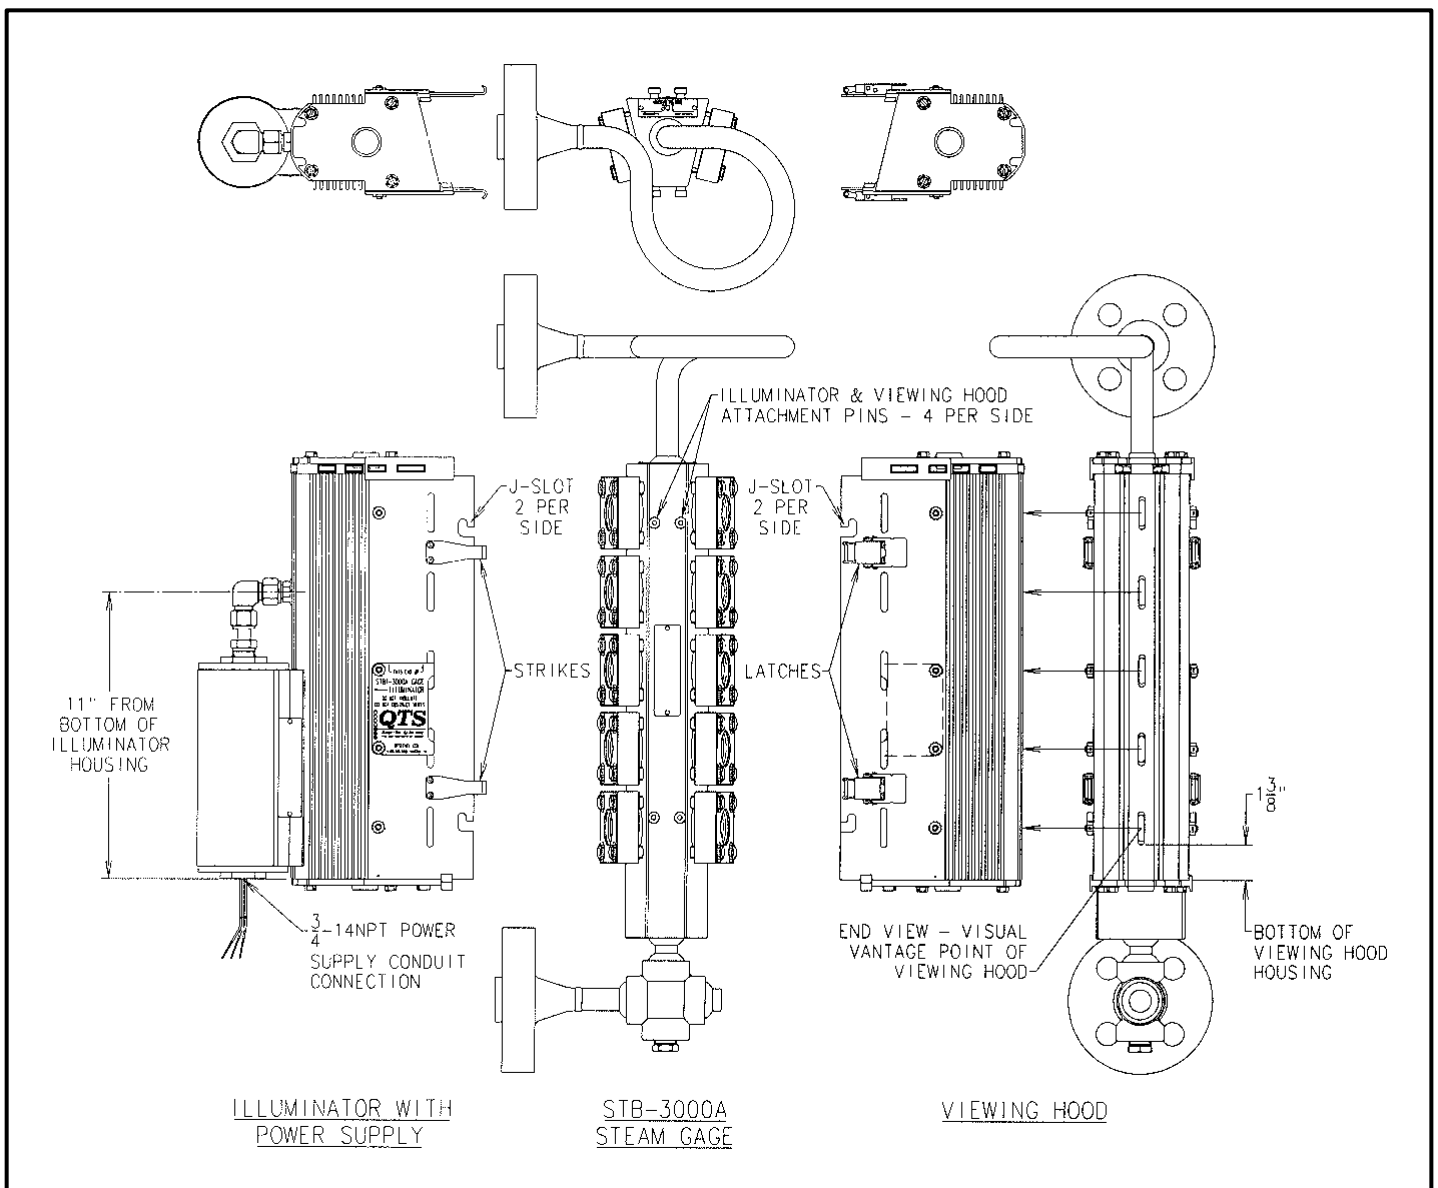
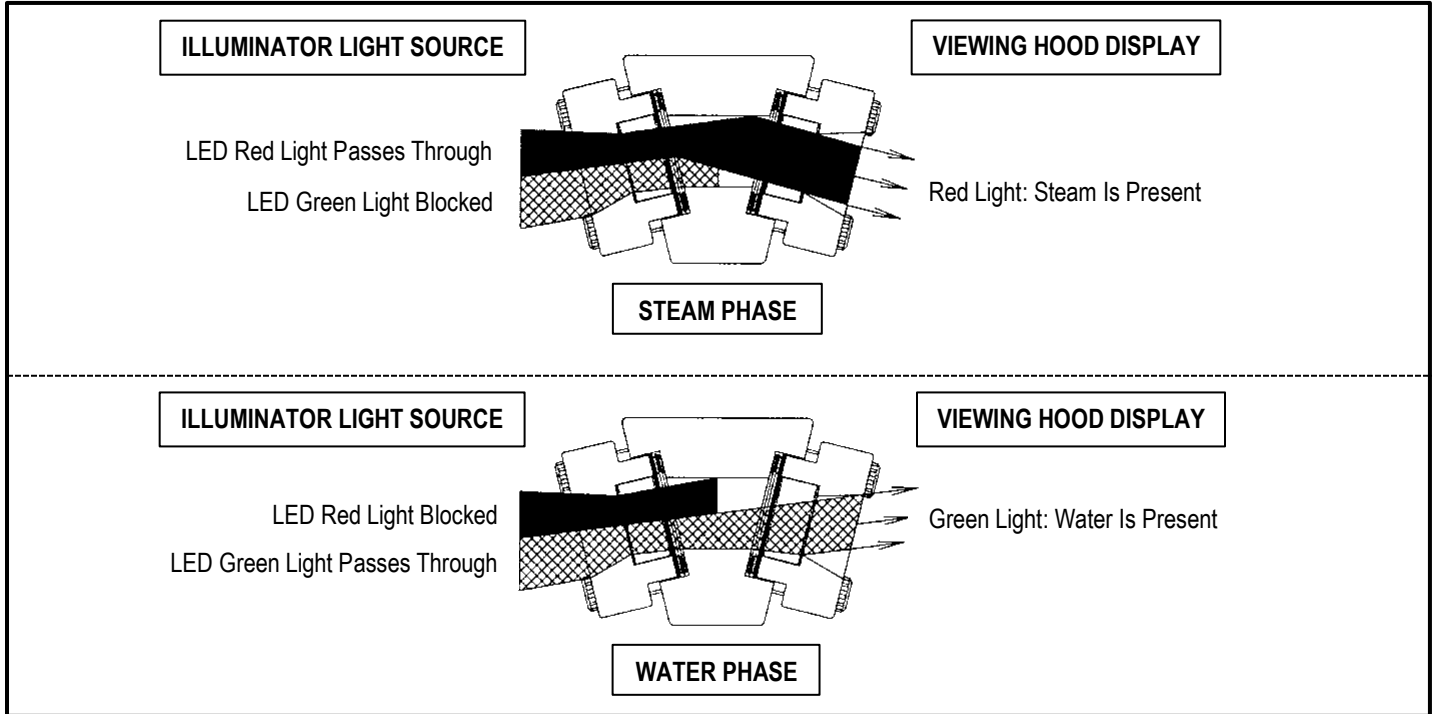
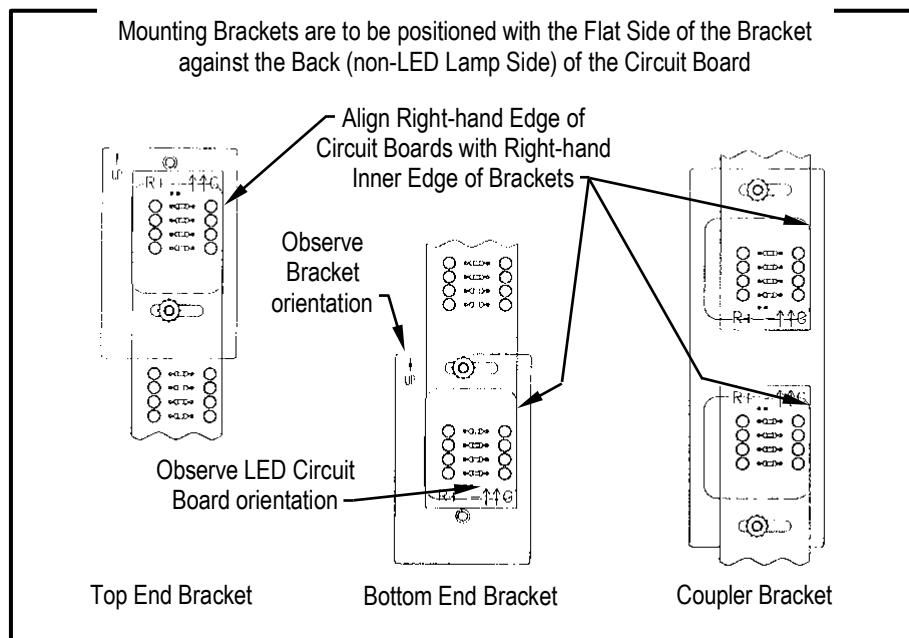

Figure 1. STBI-3000A Illuminator & Viewing Hood Attachment and Fastening Points to STB-3000A Steam Gage
Figure 2. Diagram of Illuminator Light Refraction through Gage Chamber and Indicated Level Position of Fluid Phase
Figure 4. Orientation of LED Circuit Boards and Mounting Brackets Prior to Assembly
Figure 1 below depicts a typical STB-3000A Steam Gage arrangement (a 5-port gage is shown) with the STBI-3000A Illuminator & Viewing Hood Assembly unattached to the Steam Gage. The Assembly attachment and fastening points are shown in Figure 1 below.
The STB-3000A Steam Gage Chamber has a central passageway through which steam and water can rise and fall. On opposing sides of the Chamber are flange-retained Glass Ports that are set at precise angles to cause refraction of the light emitted from the Red and Green LEDs inside of the Illuminator. The emitted light passes through the Illuminator-side Ports of the Gage, through the fluid in the Gage Chamber and exits through the Viewing Hood-side Ports of the Gage. The emitted light is visible through the Slots in the Viewing Hood from vantage point shown in Figure 1. The STBI-3000A Illuminator & Viewing Hood Assembly is designed such that through refraction, fluid in the steam phase will allow passage of only the light in the Red spectrum and, when in the water phase, will allow passage of only the light in the Green spectrum. Figure 2 shows this principle of refracted light through the Gage Chamber and the indication of fluid phase level.
**IMPORTANT: The configuration (type, size, length and position) of the STB-3000A Steam Gage vessel and drain connections were manufactured according to the Purchaser’s specifications. When installed, the Gage configuration establishes the mounting locations of the Illuminator and the Viewing Hood relative to other equipment and structures that may be present in the installation area. The Illuminator and Viewing Hood have ONE CORRECT ATTACHMENT POSITION ON THE STEAM GAGE; they are NOT reversible nor invertible. Figure 1 depicts the attachment locations relative to the Gage Chamber cross-sectional shape and Port locations.**
1. Attach Illuminator – Align the Horizontal Leg of the J-Slots in the Illuminator Side Panels (Items 7) with the Shoulder Screw Attachment Pins (Items 31) of the Gage Chamber; there are four (4) attachment points on each side of the Gage Chamber. Engage the J-Slots with the Pins, slide the Illuminator inward toward the Gage and allow the Illuminator to drop down slightly to engage the vertical “Hook” portion of the J-Slots. The Illuminator-to-Gage Attachment Points are shown in Figure 1.
2. Attach Viewing Hood – Swing the Levers of the Latches (Items 23) outward on both Viewing Hood Side Panels (Items 7) to unlock and allow free movement of the Latch Bales. Swing the Bales outward to prevent interference with the Illuminator Strikes (Item 24) when attaching the Viewing Hood. Attach the Viewing Hood the Gage Chamber as described for the Illuminator (above); refer to Figure 1.
1. Attach Side Panels to Illuminator Housing - Align Hex Flats of the Cap Screws (Items 26) with the Internal Channel Slot in the End of the Illuminator Housing (Item 1) and slide-in the quantity of screws corresponding to the quantity of Bolt Holes in the Side Panel (Item 7). Orient the first Side Panel being attached as shown in Figure 1, place it against the Side of the Illuminator Housing next to where the Cap Screws are projecting from the Housing and align the Bottom Edge of the Side Panel with the Bottom Edge of the Illuminator Housing. Reposition the Cap Screws to line-up with the Panel Bolt Holes. Engage the Panel Bolt Holes with the Cap Screws then install Lock Washers (Items 27) onto the Cap Screws. Thread Hex Nuts (Items 28) onto the Cap Screws. While maintaining alignment of the Bottom Edges of the Side Panel and the Housing, tighten the Hex Nuts to 30 in-lbs. applied torque – DO NOT OVER-TIGHTEN. Repeat this process for the attaching the remaining Side Panel to the Opposite Side of the Illuminator Housing.
**IMPORTANT: IT IS CRITICAL TO THE PROPER REFRACTION OF THE LIGHT EMITTED BY THE ILLUMINATOR THAT THE LED CIRCUIT BOARD(S) AND MOUNTING BRACKETS ARE ASSEMBLED TOGETHER EXACTLY AS SHOWN IN FIGURE 4 ABOVE.**
Place the LED Circuit Board (Item 18) on a flat horizontal surface and orient the Board with LED Lamps facing outward and the Printed Arrows on the Board pointing upward. Beneath the Bottom End of the LED Board, position the Bottom End Mounting Bracket (Item 12) with Engraved Arrow pointing upward and the Flat Side of the Mounting Bracket against the Back (Non-Lamp) Side of the LED Board. Align the Upper Threaded Hole of the Mounting Bracket with Slot in the LED Board as shown in Figure 4. Place Lock Washer (Item 21) on Machine Screw (Item 22), install thru the LED Board Slot and thread into the Upper Threaded Hole in the Mounting Bracket; do not yet fully tighten. Repeat this process for the Top End of the LED Circuit Board and the Top End Mounting Bracket. NOTE: The Top and Bottom Mounting Brackets (Items 12) are identical however the Top End of the LED Board is fastened to the Lower Threaded Hole of the Top End Mounting Bracket as shown in Figure 4. With both Brackets attached, align the Right-hand Edge of the LED Board with the Inner Right-hand Edges of the Mounting Brackets and fully tighten the Machine Screws.
1. Place the LED Circuit Boards (Items 18) on a flat horizontal surface. Position the LED Boards in a “String” in the order in which they are to be attached to each other. NOTE: When connecting LED Boards having unequal overall lengths, their relative positioning has no effect on the Illuminator function. However, it is recommended that the Longer LED Boards be positioned at the Bottom of the Board String such that when installed, they will be nearest to the Bottom of the Assembled Illuminator. Orient the Boards with LED Lamps facing outward and the Printed Arrows on the Boards pointing upward. Beneath the Bottom End of the Lowest LED Board in the String, position the Bottom End Mounting Bracket (Item 12) with Engraved Arrow pointing upward and the Flat Side of the Mounting Bracket against the Back (Non-Lamp) Side of the LED Board. Align the Upper Threaded Hole of the Mounting Bracket with Slot in the LED Board as shown in Figure 4. Place Lock Washer (Item 21) on Machine Screw (Item 22), install thru the LED Board Slot and thread into the Upper Threaded Hole in the Bottom Mounting Bracket; do not yet fully tighten. Repeat this process for the Top End of the Uppermost LED Board in the String and the Top End Mounting Bracket. NOTE: The Top and Bottom Mounting Brackets are identical however the Uppermost LED Board is fastened to the Lower Threaded Hole of the Top End Mounting Bracket as shown in Figure 4.
- B. Install Electrical Primary Cable: From the exterior of the Illuminator Housing (Item 1), insert the SMALL FEMALE CONNECTOR END of the Primary Electrical Cable (Item 9) thru the previously installed Tube Adapter Fitting (Item 15A1). Gently pull the Cable through the Tube Adapter and into the Interior of the Illuminator Housing until about 3” of Cable (including the length of the Male End Connector) remains exposed from the End of the Tube Adapter. Where the Cable enters the Interior of the Illuminator Housing (just beyond the Hex Pipe Nut (10)), make a small bend in the Cable then route the Cable along the Inside of the Illuminator Housing Wall Channel and to the Bottom End and out of the Illuminator Housing.
7. Fasten Lower End Cap to Illuminator Housing – Apply lubricant to the four (4) Cap Screws (Items 8) according to *DISASSEMBLY/PARTS REPLACEMENT/REASSEMBLY – Important Disassembly/Reassembly Notes* Section in this Manual; set Cap Screws aside for later use.
- A. The Diagonal Edge of the Lower End Cap (Item 5A or 5B) MUST be oriented the direction shown in the Top View of Figure 1 (the Upper End Cap (Item 4), Vent Plate (Item 3) and the Lower End Cap are all positioned with their Diagonal Edge oriented in the same direction). When correctly oriented, the Longer Side of the Lower End Cap will be positioned on the “Front Side” of the Illuminator Housing (Item 1) relative to the previously installed Electrical Fitting (Items 15A1) or, as applicable, the Power Supply Unit Cover (Item 15B3) being on the “Left Side” of the Housing; refer to Figure 1.
8. Install Cushion Cords, Vent Plate and Upper End Cap – It is highly recommended that the Illuminator Sub-assembly to be oriented upright in its normal operating position when installing these Components. Apply lubricant to the four (4) Cap Screws (Items 8) according to *DISASSEMBLY/PARTS REPLACEMENT/REASSEMBLY – Important Disassembly/Reassembly Notes* Section in this Manual; set Cap Screws aside for later use.
- C. The Diagonal Edges of the Vent Plate (Item 3) and Upper End Cap (Item 4) MUST be oriented the direction shown in the Top View of Figure 1. When correctly oriented, the Longer Side of both Parts will be positioned on the “Front Side” of the Illuminator Housing relative to the previously installed Electrical Fitting (Items 15A1) or, as applicable, the Power Supply Unit Cover (Item 15B3) being on the “Left Side” of the Housing; refer to Figure 1.
- D. Align the Bolt Holes of the Vent Plate with those in the End of the Illuminator Housing and engage the Panel Guide Slots of the Vent Plate with the Top Edges of the Side Panels (Items 7). Place the Upper End Cap on top of the Vent Plate and align the Bolt Holes. Install the four (4) previously lubricated Cap Screws (Items 8) thru the Bolt Holes of the Upper End Cap and Vent Plate and thread into the Illuminator Housing. Tighten the Cap Screws hand-tight.